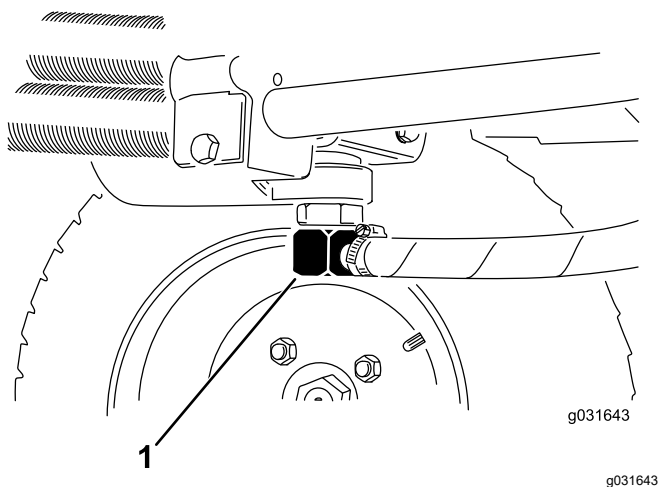
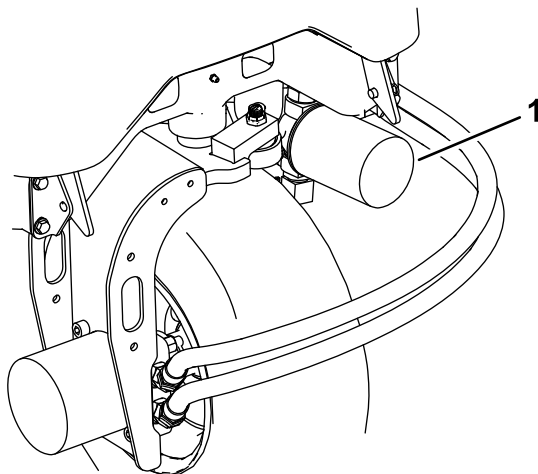

Figure 64
Figure 66
2. Disconnect the hydraulic line or remove the hydraulic filter and let the hydraulic fluid flow into a drain pan (Figure 66 and Figure 64).
3. Install the hydraulic line when the hydraulic fluid stops draining (Figure 64).
3. Clean around the filter-mounting area, place a drain pan under the filter, and remove the filter (Figure 66).